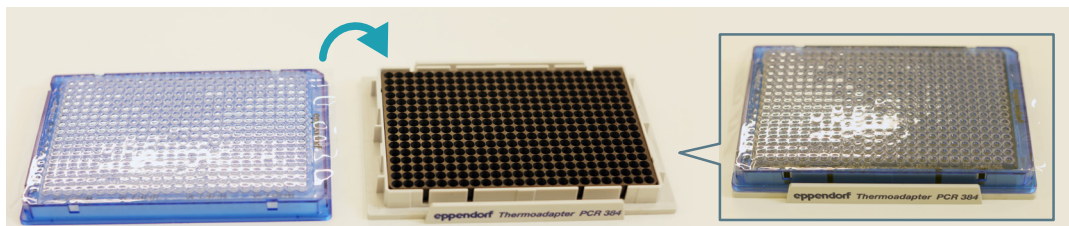

Figure 36. Thermoadapter
- Place PCR1 Plates 1–4 on the thermoadapters (*Figure 36*).